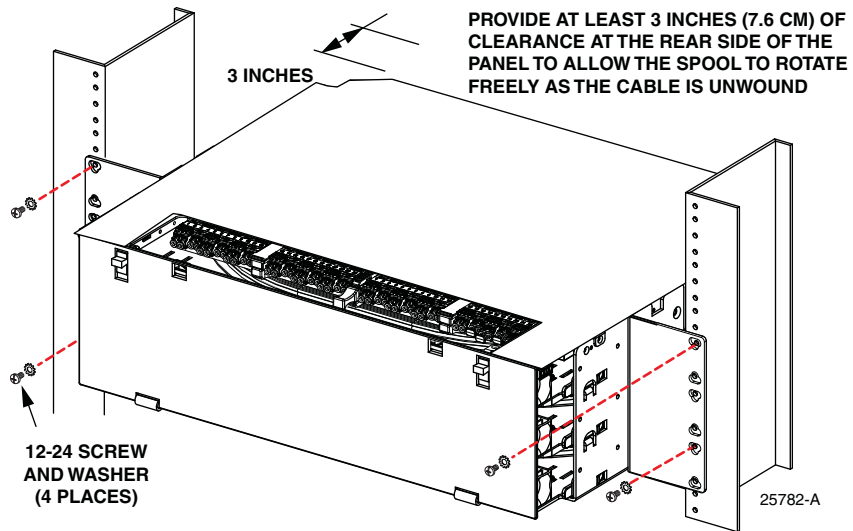

Figure 12. Mounting the Panel in a Rack
- Secure the panel to the rack or cabinet using the four #12-24 screws and #12-24 lock washers provided (per local practice) as shown in Figure 12.
- ▶ **Note:** When mounting the panel, provide at least 3 inches (7.6 cm) of clearance at the panel's rear side, as shown in Figure 12 to allow the spool to rotate freely when unwound.